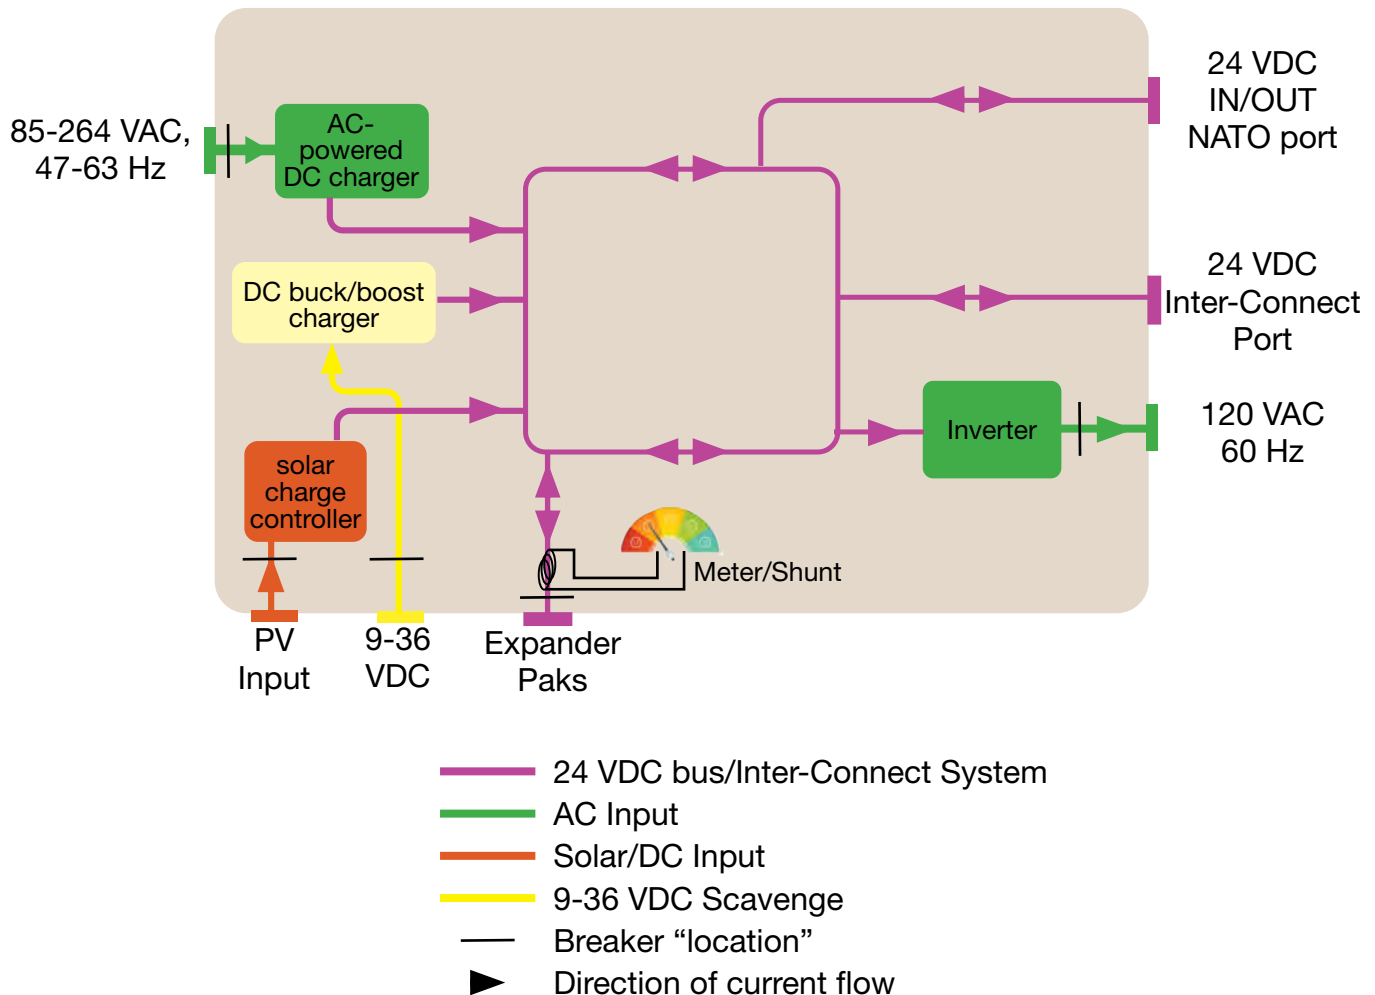

Figure 1. Schematized power flow from a top-down view of the interior of the HyPR 3000
The DC bus is effectively the nervous system of the HyPR. All HyPR functions are regulated directly or indirectly by the DC bus voltage. The DC bus voltage is functionally equivalent to the System battery voltage. Direct connections to the DC bus can be made via the two (2) Inter-Connect ports and the NATO port. Ports for PV, the scavenger circuit, AC Input and AC output ports are indirect connections to the DC bus (See “Figure 1. Schematized power flow from a top-down view of the interior of the HyPR 3000” on page 7).
DC Scavenging Mode—The HyPR 3000 provides an energy scavenging tool to harvest power from conventional and non-conventional 9 to 36 volt power sources not integral to the Solar Stik family of products, such as a random batteries or a 12 VDC vehicle accessory outlet. The HyPR scavenging circuit automatically converts any power source voltage between 9 and 36 VDC to 28.4 VDC which is appropriate for charging ESMs and/or to support small 120 VAC or 24 VDC loads. It is not necessary for a Solar Stik ESM to be connected to the HPS to take advantage of the Scavenging circuit. If ESM's are not connected, however, the HyPR can only support loads up to the amount of power provided through the Scavenging circuit (Figure 1).